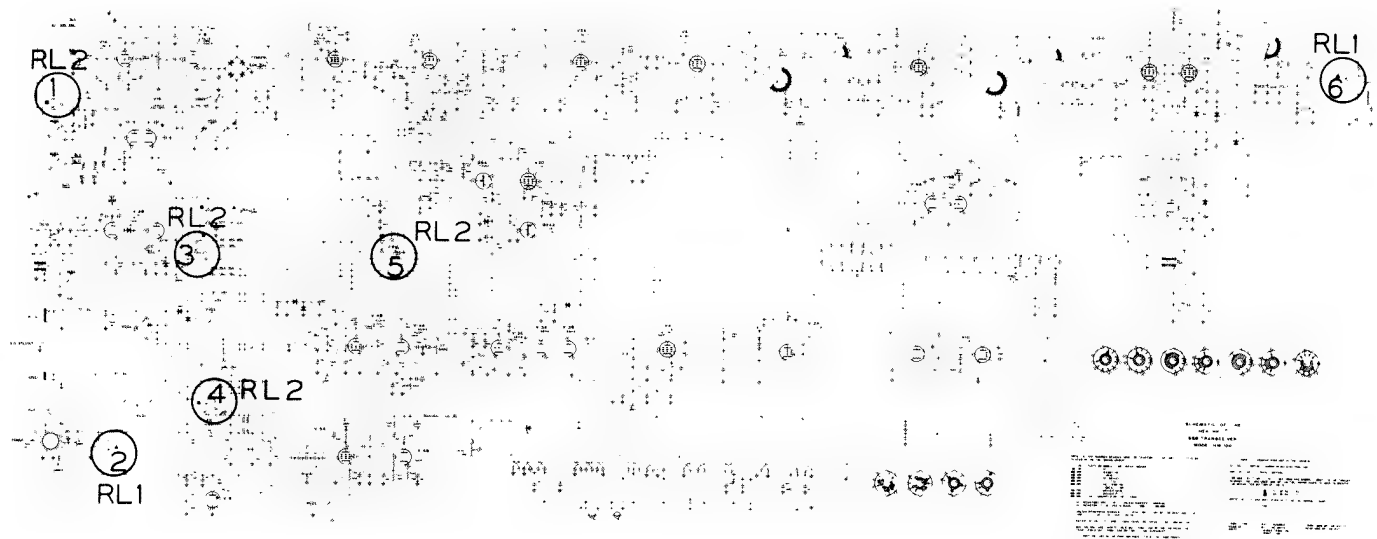

Figure 2-19
### FINAL AMPLIFIERS (Figure 2-19, fold-out from Page 171)
**SWITCHING (Figure 2-19)**
Figure 2-19 shows the position and assigns an identifying number to each of the relay sections on the Main Schematic. The numbers will be used in the following paragraphs to explain how each section is used.